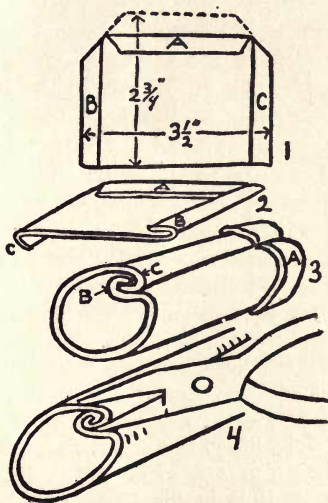

FIG. 31.
**The Candle Socket.**—The next thing to be made is the candle socket which is also used to connect both trays. Cut a piece of tin  $2\frac{3}{4}$  by  $3\frac{1}{2}$  inches, set the dividers to  $\frac{1}{4}$  inch and scribe a line  $\frac{1}{4}$  inch inside three edges of the piece as shown in Fig. 31, No. 1. Clip off the corners and fold down the strip marked *A*, flat against the tin. *C* and *B* should be partially folded over but not closed up, Fig. 31, No. 2. These two flaps, *C* and *B* are to be locked together to form a locked seam as shown in No. 3.